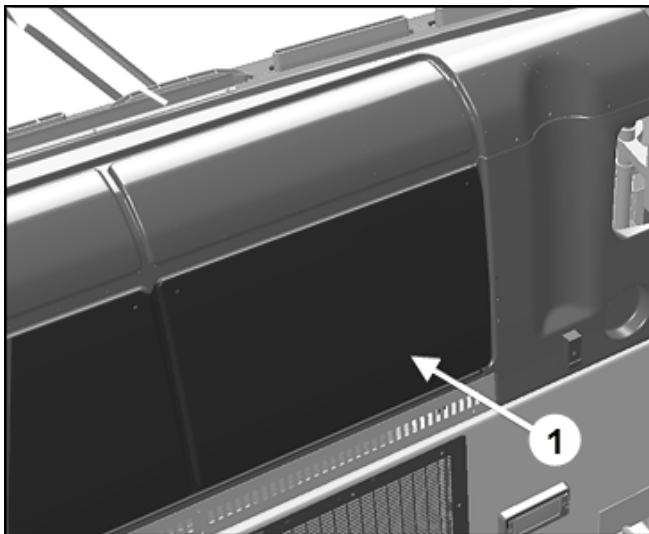

FIGURE 4
2. Remove the dashboard access panel (item 1, figure 4).